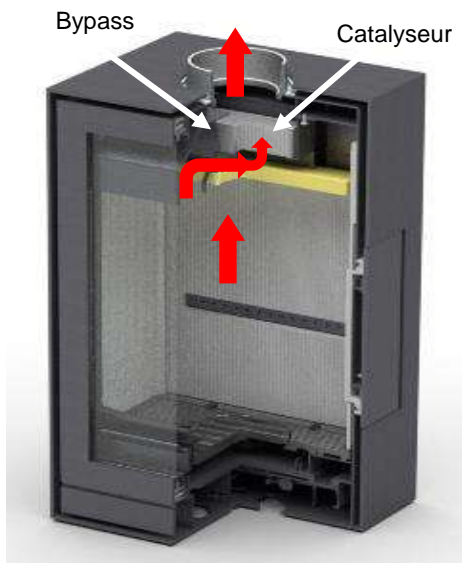

Fig. 27. Flue gas circulation with the bypass closed
- Then, adjust the flow to the desired intensity with the upper air control manually with the tool provided, or by pressing the OFF/LO button on the remote control. With practice, you will quickly be able to find the position that suits you best. If you have the CATALYTIC HYBRID WOODBOX System, close the by-pass to allow the flue gases pass through the catalyst (Fig. 27) to achieve the maximum efficiency of the stove. **Protect your hands for such operation.**
- Then lower the intensity to almost minimum, and if your stove has the CATALYTIC HYBRID WOODBOX system, close the by-pass (Fig. 27). **Protect your hands and use the poker for such operation.**